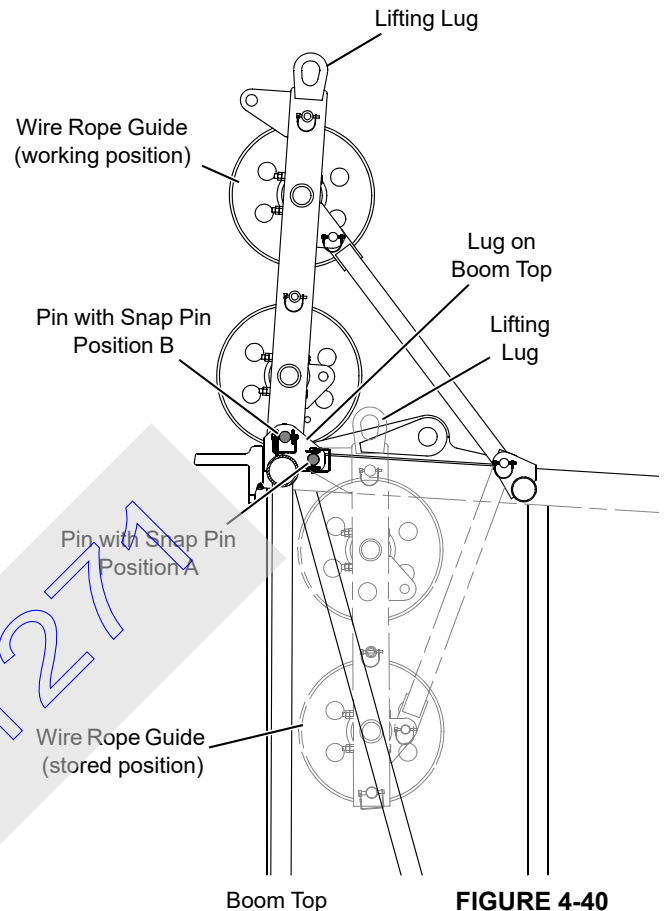

FIGURE 4-40
See Figure 4-40 for the following procedure.
- Store boom top wire rope guide as shown in Figure 4-40.